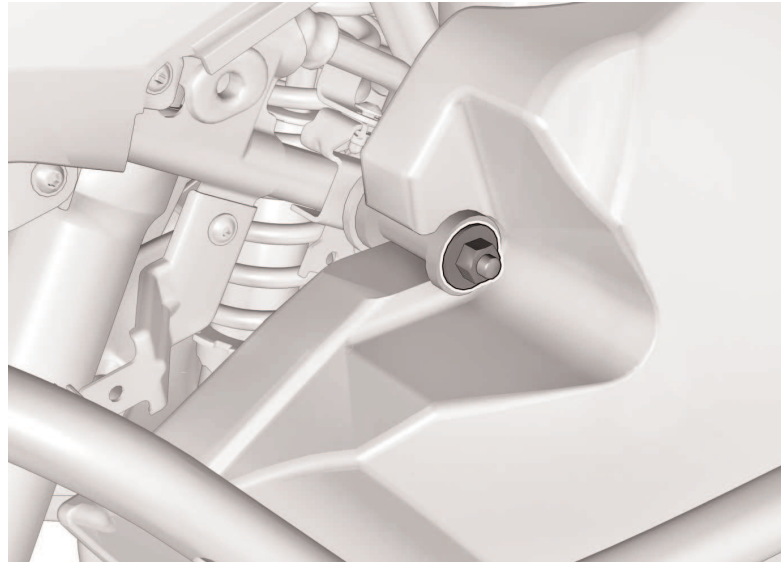

Figure 2: **Construction status 1** with nut on outside - thread-locking compound **must be** applied to secure the threaded fastener of each front fuel-tank mount.
Aftersales Solution: Use attached work item 00 60 227 to check the construction status of the fairing bracket fitted to the motorcycle (see Figures 2 and 3). In the case of **construction status 1**, **apply** a high strength thread locking compound, such as Loctite® 270, to secure the nuts of the front fuel-tank mounts; in the case of **construction status 2** there is **no need** for this additional securing.